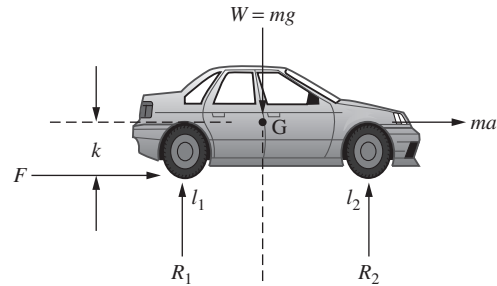

Figure P7.25 A vehicle supported by reaction forces.
- 7-25.** The weight of a vehicle is supported by reaction forces at its front and rear wheels as shown in Fig. P7.25. The reaction forces R_1 and R_2 satisfy the following system of equations: